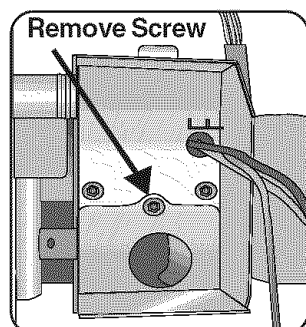

Figure 14
- 2 Remove the strain relief plate by removing the screw at the back of the junction box, as shown in **Figure 14** and sliding the strain relief plate out.